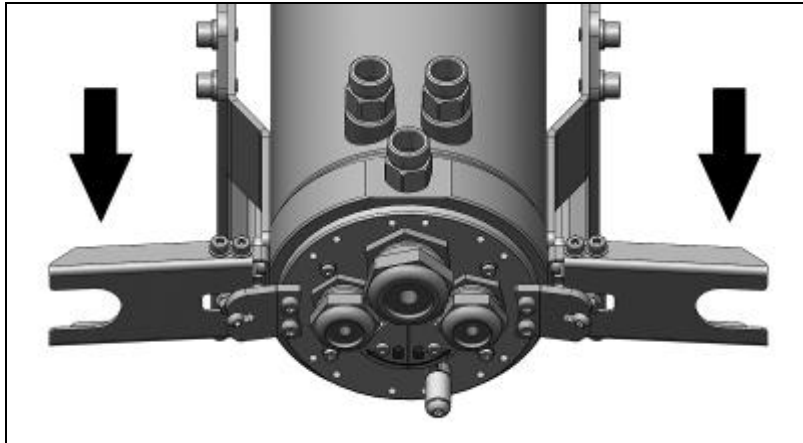

Figure 27: Unlocking of the hinge
5. Dismount in reverse order (**Figure 27**).